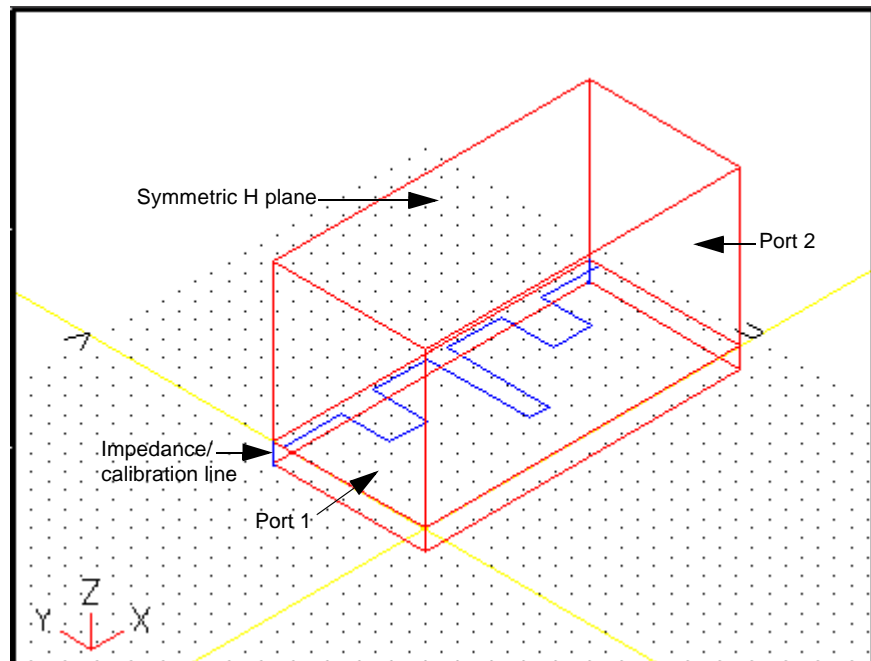

Figure 41 Ports, Boundaries, and Impedance/Calibration Lines for the Microstrip Low-Pass Filter
The microstrip low-pass filter requires two ports: one for the signal to enter the structure and one for the signal to exit the structure. Refer to Figure 41 for the location of the ports and boundaries.
- 11 Place the pointer on a point on port 1 of the microstrip low-pass filter and click it. Refer to Figure 41 on page 99 for the location of the ports. A small x is drawn on the vertex point to indicate that it is selected.
- 14 Follow steps 8 through 13 to define port 2. Refer to Figure 41 on page 99 for its location if necessary.
The magnetic symmetry boundary shown in Figure 41 on page 99 is the boundary you created by only drawing one-half of the microstrip low-pass filter. Choose this plane and define it as a symmetric H plane that will be taken into account when the problem is solved.
Refer to Figure 41 on page 99 for the location of ports, impedance and calibration lines on the microstrip low-pass filter example.
Refer to Figure 41 on page 99—the impedance and calibration line starts at the bottom edge of the port and points up.
- 10 When lines have been defined for both of the ports, click **Done**. The calibration and impedance lines should look like the ones in Figure 41 on page 99, and the problem is ready to solve.